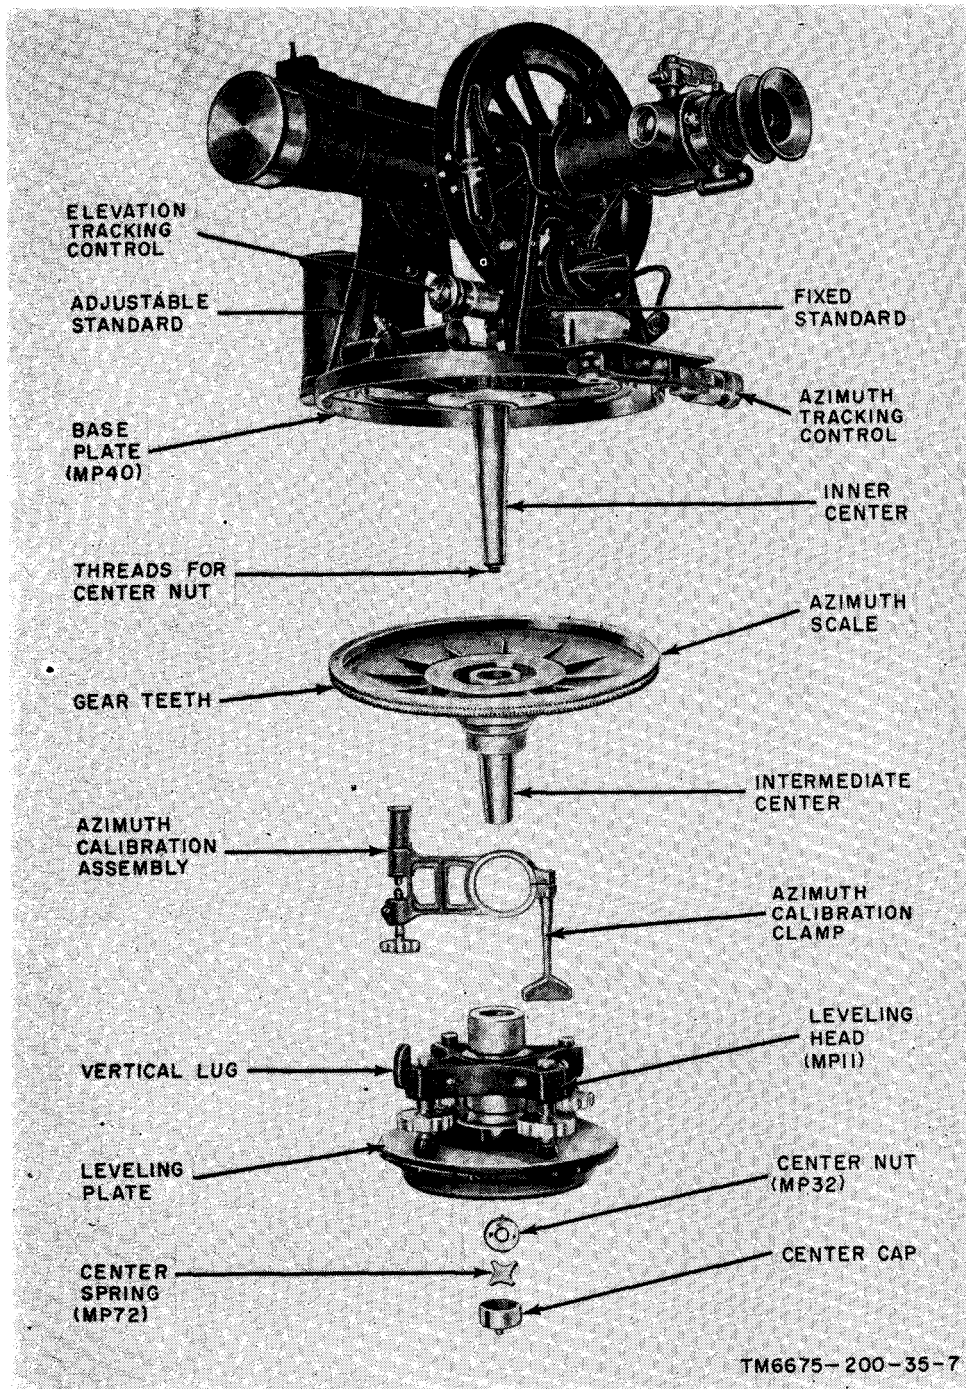
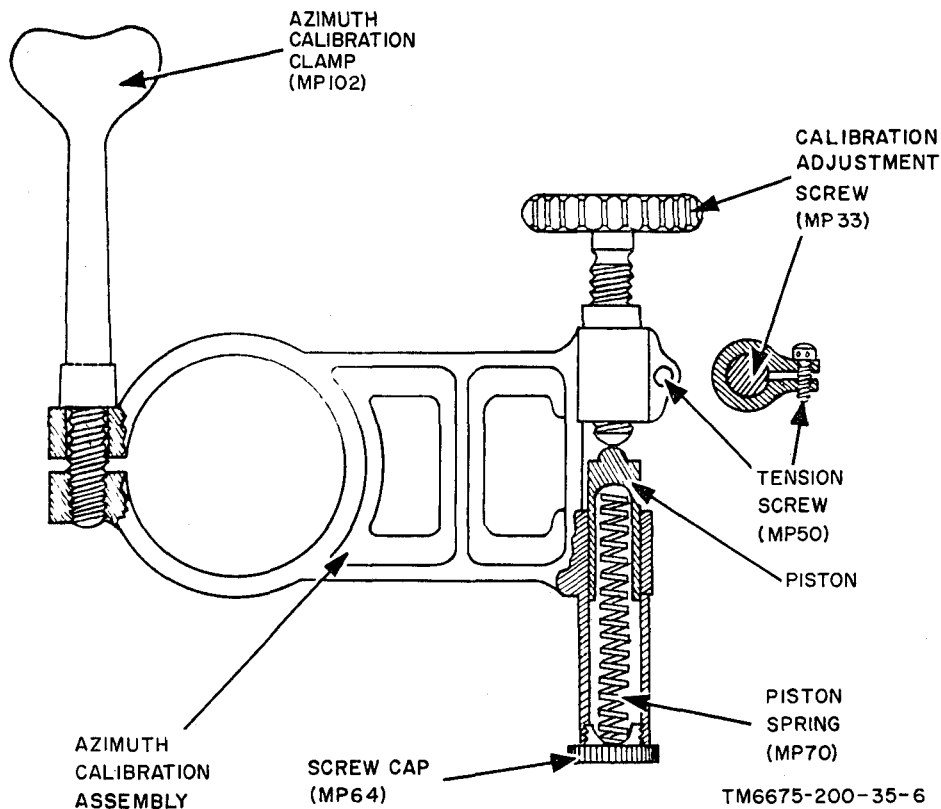
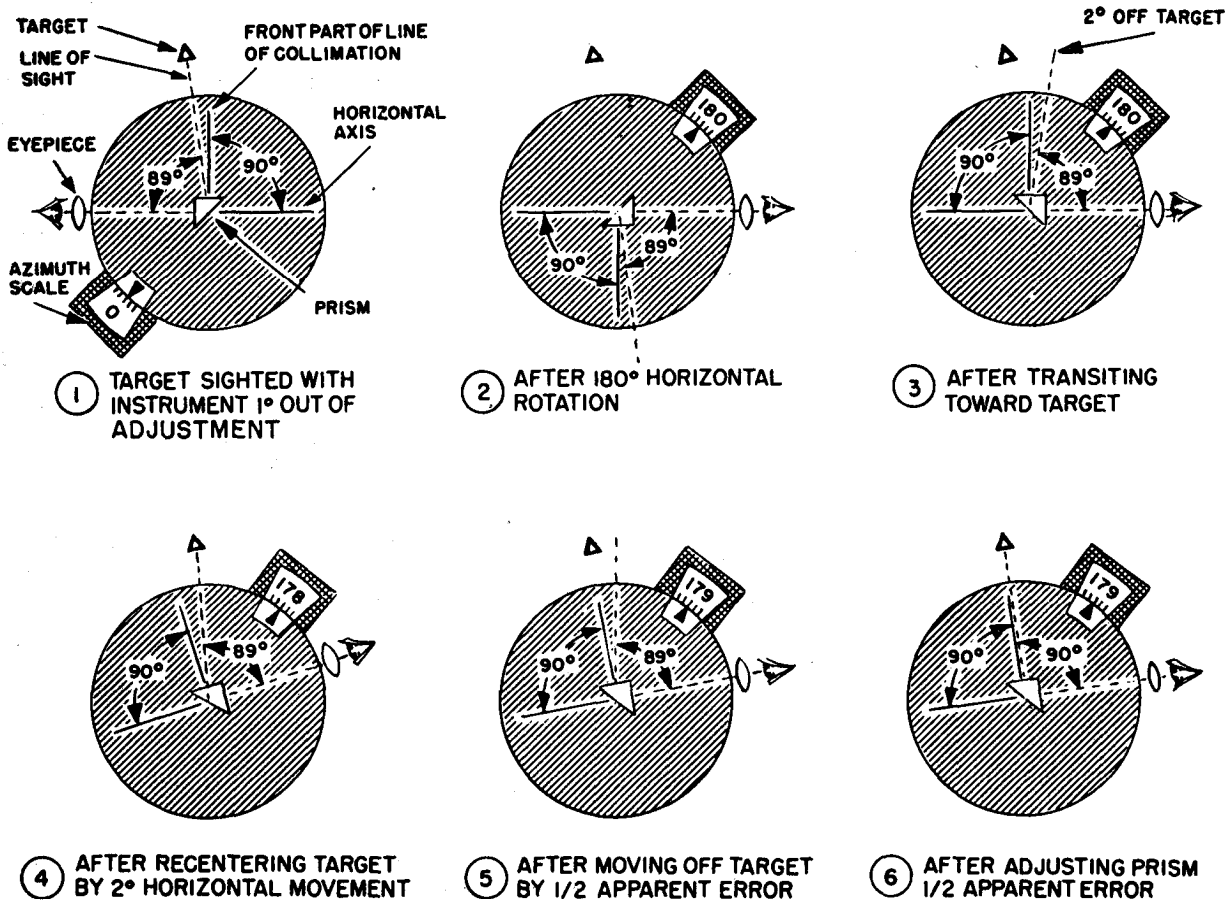

Figure 6. Partial disassembly of theodolite to reveal internal bearing surfaces.
Figure 7. Azimuth calibration assembly.
Figure 9. Adjustment of prism.
16. Cleaning, Lubrication, and Inspection of Internal Bearing Surfaces (fig. 6)
- (1) Put the azimuth calibration assembly in place on the leveling head (MP11) so that the head of the tension screw (MP50) (fig. 7) is up and the vertical lug (fig. 6) of the leveling head is between the calibration adjustment screw (MP33) (fig. 7) and the piston.
- (2) Carefully slide the intermediate center (fig. 6) onto the inner center spindle. Engage the azimuth tracking control.
- (3) Carefully insert the intermediate center into the leveling head (MP11).
- (4) Lower the upper portion of the unit until the shoulder of the intermediate center is seated in the azimuth calibration assembly.
- (5) Tighten the azimuth calibration clamp.
- (6) Place the theodolite on its side and replace the center nut (MP32). Use the spanner wrench to tighten the nut.
- (7) Place the center spring (MP72) in the center cap so that its raised side will press against the inner center spindle tip when the cap is in place. Screw the cap on hand-tight.
(fig. 6)
- (1) Disengage both tracking controls (fig. 6).
- (2) Tighten the azimuth calibration clamp.
- (3) Sight the vertical cross hair on some well-defined point.
- (4) Engage the azimuth tracking control.
- (5) Swing the telescope up and down slowly while sighting on the point.
- (6) The point should appear to travel exactly along the length of the vertical cross hair.
(fig. 9)
- (1) Disengage both tracking controls (fig. 6). Operate the finder-tracking lever (MP6, fig. 1) toward the focusing eyepiece (MP26).
- (2) Select a well-defined target point, 200 to 300 feet away, to which the line of sight is approximately horizontal.
- (3) Set the azimuth scale to 0° (1, fig. 9) and engage the azimuth tracking control (fig. 6).
- (4) Loosen the azimuth calibration clamp.
- (6) Center the tracking telescope cross hairs on the target point selected ((21) above); tighten the azimuth calibration clamp (fig. 6).
- (8) Disengage the azimuth tracking control (fig. 6) and set the azimuth scale at exactly 180° (2, fig. 9); engage the azimuth tracking control (fig. 6).
- (9) Swing (transit) the telescope vertically until the target point is again visible in the telescope field (3, fig. 9).
- (10) If the target point falls on the vertical cross hair, the telescope line of sight is correctly adjusted. If it does not, adjust the prism as outlined in b below.
b. *Adjusting Prism.* With the theodolite still set as in a(9) above, proceed as follows:
- (1) Turn the azimuth tracking control (fig. 6) to center the cross hairs on the target point.
- (2) Read the azimuth scale (4, fig. 9); note the number of degrees the reading deviates from 1800.
- (3) Turn the azimuth tracking control to set the azimuth scale halfway between
the reading ((2) above) and 180° (5, fig. 9).
- (5) Engage the capstan pins in the prism holder adjustment screws (MP44 and MP45).